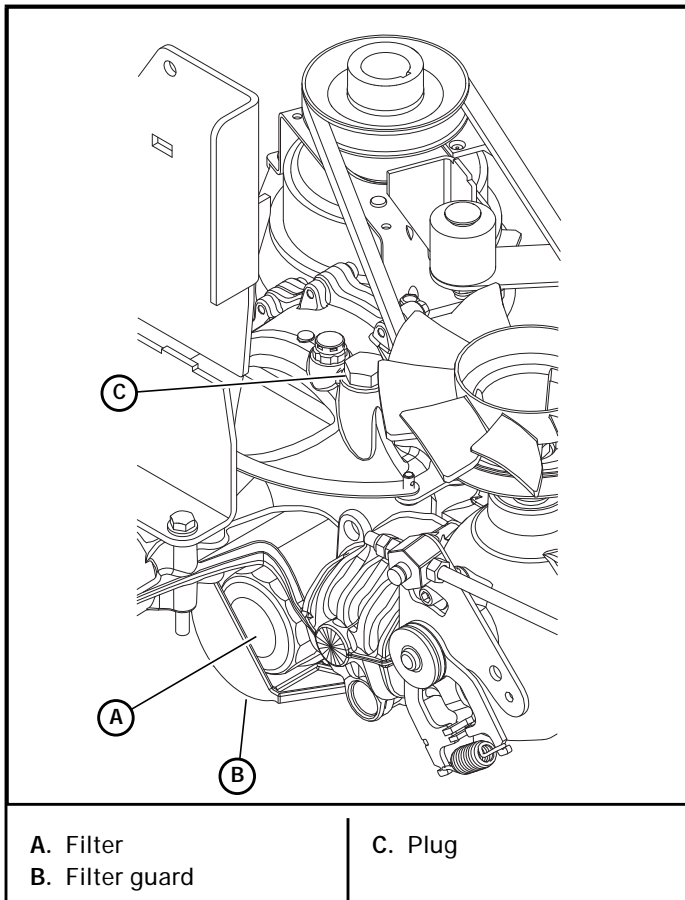

Figure 4-17
2. Remove the three 1/4" filter guard screws and filter guard. Clean any loose debris from around the filter. Figure 4-17
7. Re-install the filter guard with three 1/4" screws. Torque the screws to 65 in-lbs each. Figure 4-17
9. Remove the top port plug. Figure 4-17